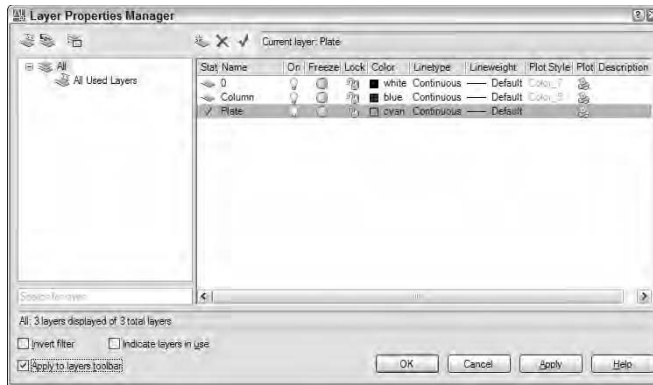

Figure 3-4:
The LAYER (LA) command starts and AutoCAD displays the Layer Properties Manager dialog box as shown in Figure 3-4.